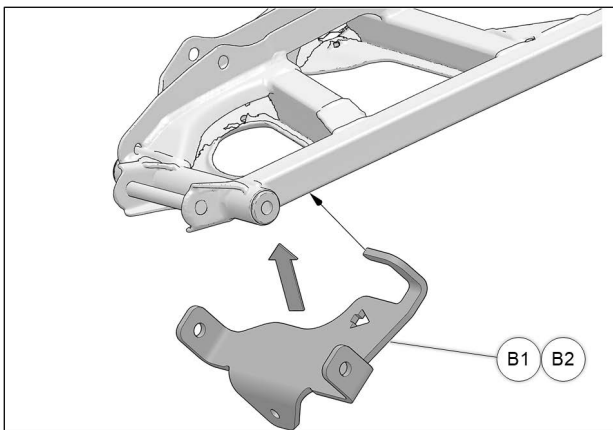

Fig. 5
5. Hook rear of anchor bracket (B1-B2) on suspension arm member facing front of vehicle. See Fig. 5